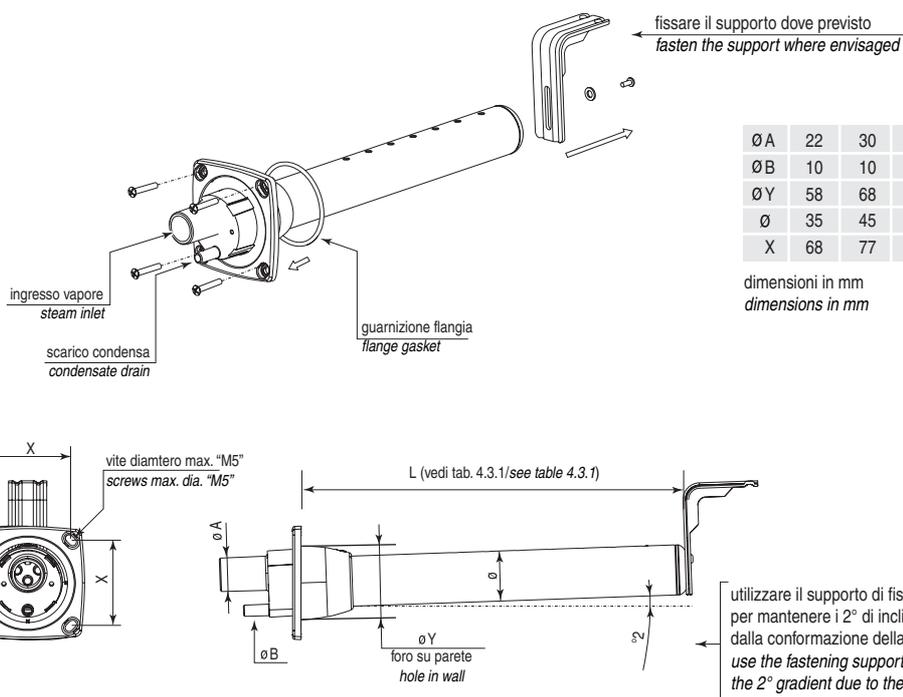

Fig. 4.3.1
The humidifier may be used for small ducts with a static pressure of no greater than 500 Pa. For steam distribution into air ducts, the steam distributor must be sized according to the output of the humidifier and the cross-section of the ducting. For this purpose, CAREL supplies two ranges of linear distributors: one in aluminium, with plastic ends. Figures 4.3.1 provide the dimensions of the CAREL distributors, while table 4.3.1 specifies the minimum number and the model of the distributor recommended for the type of humidifier used.
- praticando sulla parete del canale una serie di fori secondo la dima di foratura indicata nelle Fig. 4.3.1;
- making a series of holes in the wall of the duct according to the drilling template indicated in Fig. 4.3.1;